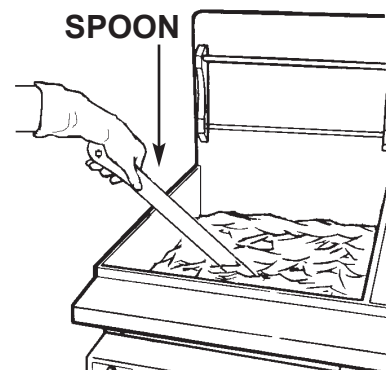

FIGURE 4.
3. Use spoon provided to stir oil. Bubbling will occur until all water is removed. Failure to do so will clog the filter paper. Refer to Figure 4.
3. Figure 4 (Water may have clogged the paper)